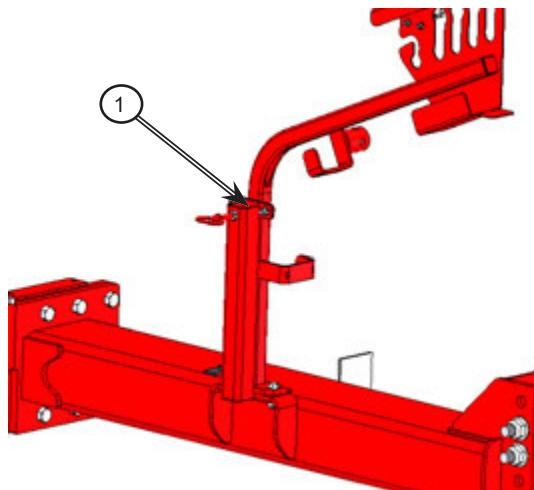

Figure 4.14: Pry bar holder
- i. A pry bar can be stored in the pry bar holder (1) that is mounted to the hose holder; see *Figure 4.14*.